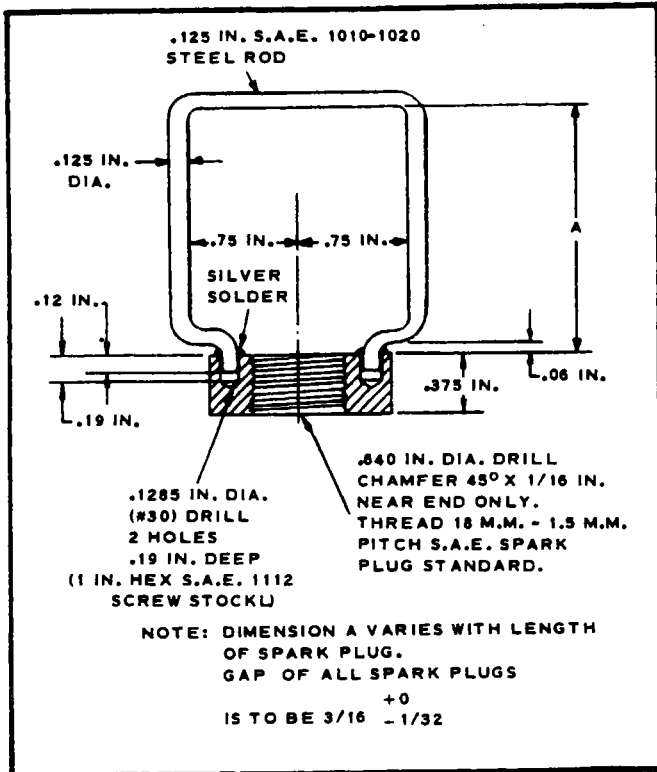

Figure 13-21. Spark Plug Fixture (39D18 Plugs)
- d. A spark gap of 0.050 to 0.060 inch is required on 10D22 spark plugs which include the ground electrode loop. The proper gap for the 39D18 plug is 0.156 to 0.188. A convenient means of arranging the correct spark gap for 39D18 plugs is to install the spark plug in a test fixture arranged to provide a ground electrode and a spark plug gap as noted above. (Refer to Figure 13-21 for information on fabrication of this fixture.)
The dimension "A" in Figure 13-21 must be varied with the length of spark plug electrode to provide a gap of 0.156 to 0.188 for 39D18 plugs.